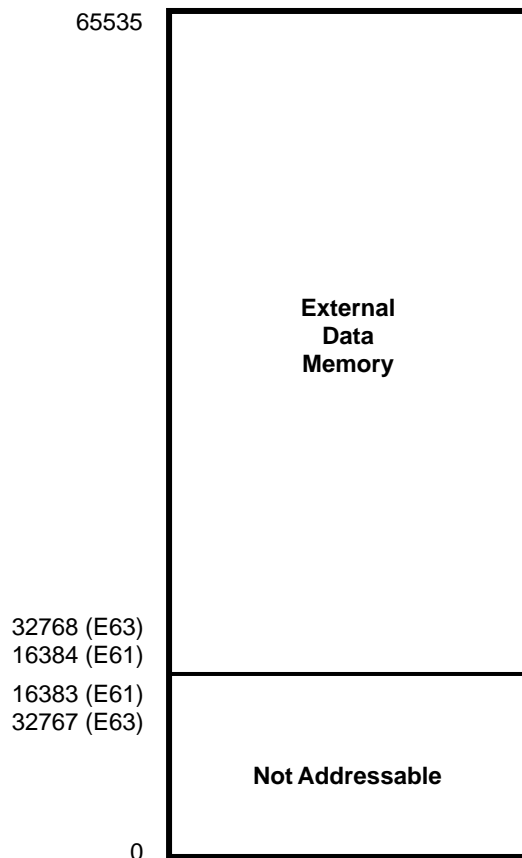

Figure 12. Data Memory Configuration
**Data Memory (/DM).** The EPROM version can address up to 48 Kbytes (E61) or 32 Kbytes (E63) of external data memory space beginning at location 16384 (E61) or 32768 (E63). The ROMless version can address up to 64 Kbytes of external data memory. External data memory may be included with, or separated from, the external program memory space. /DM, an optional I/O function that can be programmed to appear on pin P34, is used to distinguish between data and program memory space (Figure 12). The state of the /DM signal is controlled by the type instruction being executed. An LDC opcode references PROGRAM (/DM inactive) memory, and an LDE instruction references DATA (/DM active Low) memory.